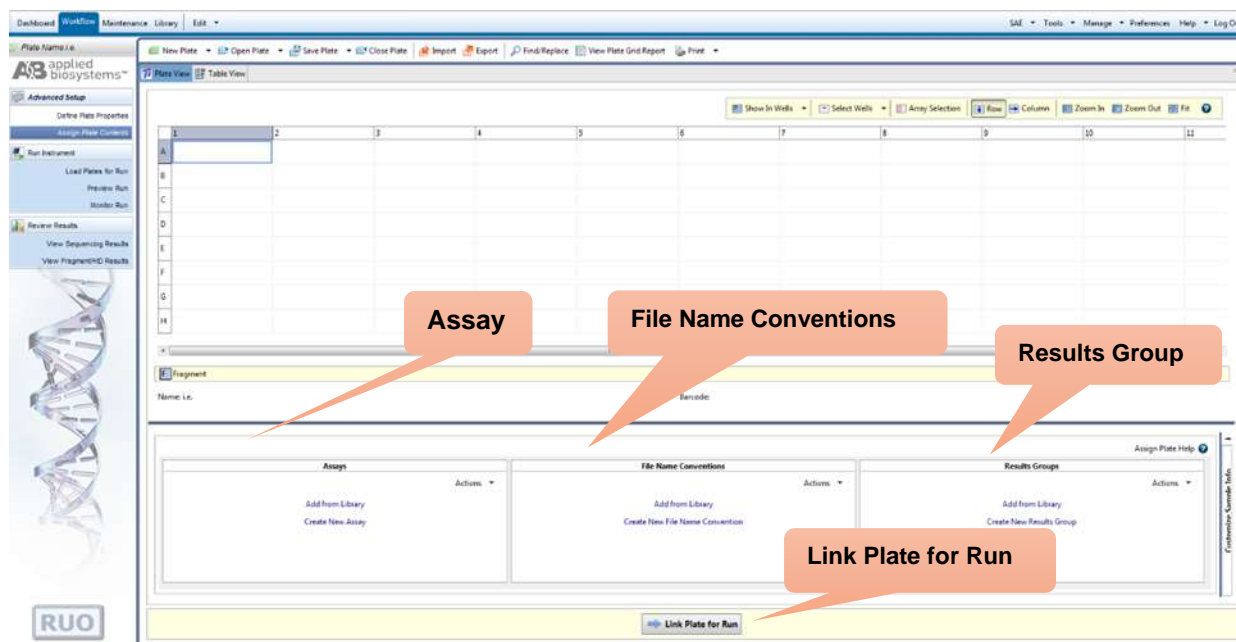

Figure 12. Screenshot for the “Assign Plate Contents” window on Applied Biosystems® 3500 Data Collection software
- In the *Assign Plate Window* (Figure 12), in the bottom left corner, in a box “Assay”, click *Add from Library* option to select the Assay created in Step 3.1.4. Click on the Add to Plate button and close the window.